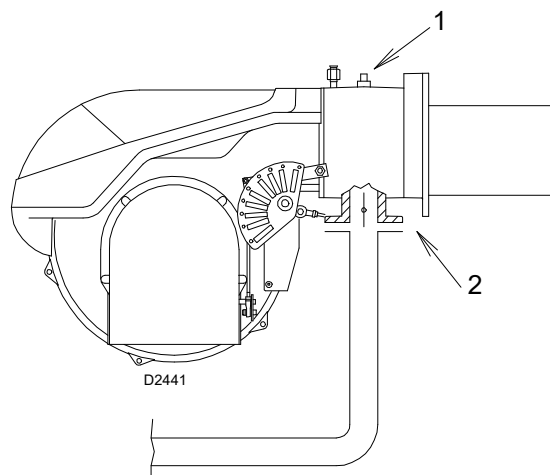

Fig. 29
Gas manifold pressure measured at test point 1)(Fig. 29), with:
- subtract the combustion chamber pressure from the gas pressure measured at test point 1)(Fig. 29).
- Gas pressure at test point 1)(Fig. 29) = 8.0" WC